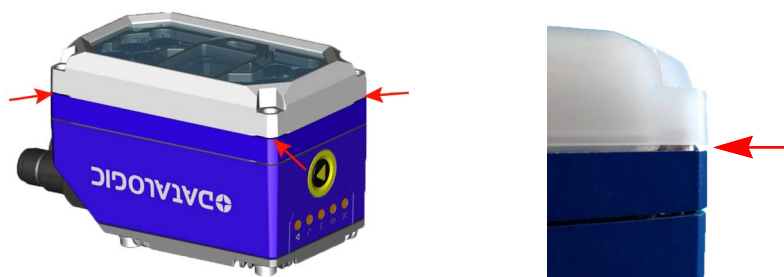

Figure 73 - Removing the cover (14 LEDs model)
2. Remove the cover. The cover will remain attached to the body because of the gasket. To unmount it properly, it is recommended to gently lever the cover from its corners using a flat blade screwdriver between the cover and the body of the reader. See Figure 73 and Figure 74.